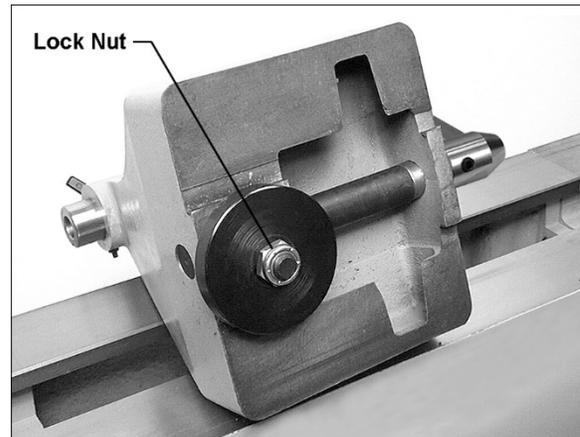

Figure 8-2: cam adjustment
If headstock, tailstock or tool rest base does not properly tighten down against bed when the locking handle is tightened, adjust as follows. Figure 8-2 uses tailstock as example.
2. Turn tailstock on its side and tighten lock nut with a wrench. See Figure 8-2.